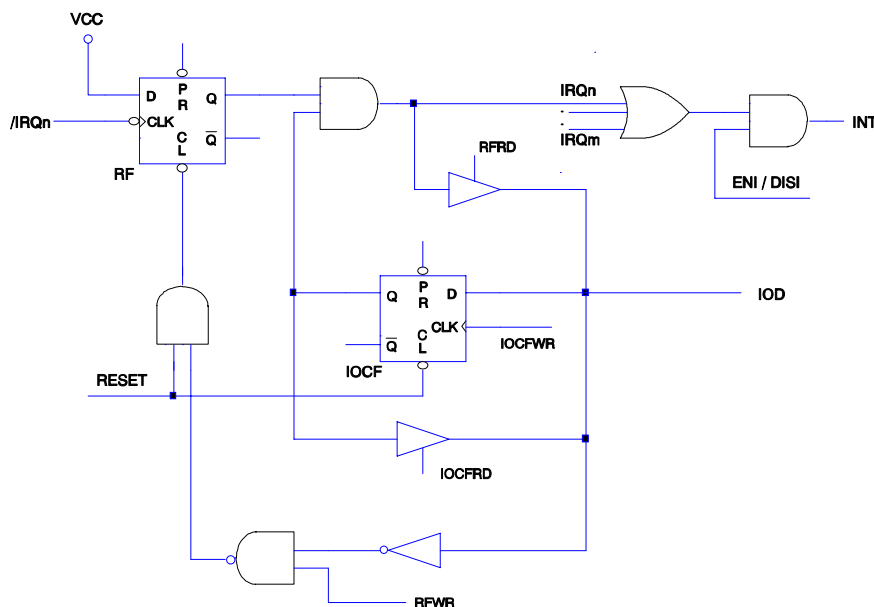

Fig. 10 Interrupt input circuit
- Global interrupt is enabled by ENI instruction and is disabled by DISI instruction. Refer to Fig.10.
The flag (except ICIF bit) in the Interrupt Status Register (RF) is set regardless of the status of its mask bit or the execution of ENI instruction. Note that reading RF will get the output of logic AND of RF and IOCF. Refer to Fig. 10. The RETI instruction exits interrupt routine and enables the global interrupt (execution of ENI instruction).